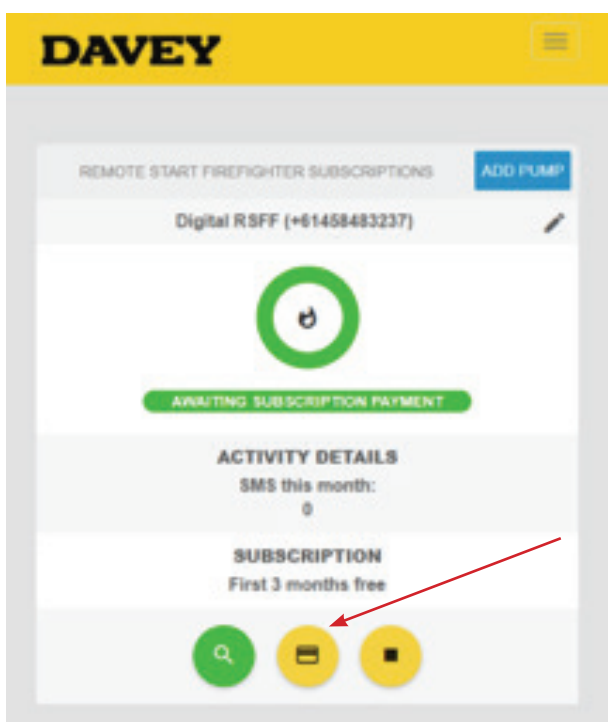

Figure 7.17
- > To make a payment, or renew a subscription, click the “CARD” symbol (Figure 7.17);